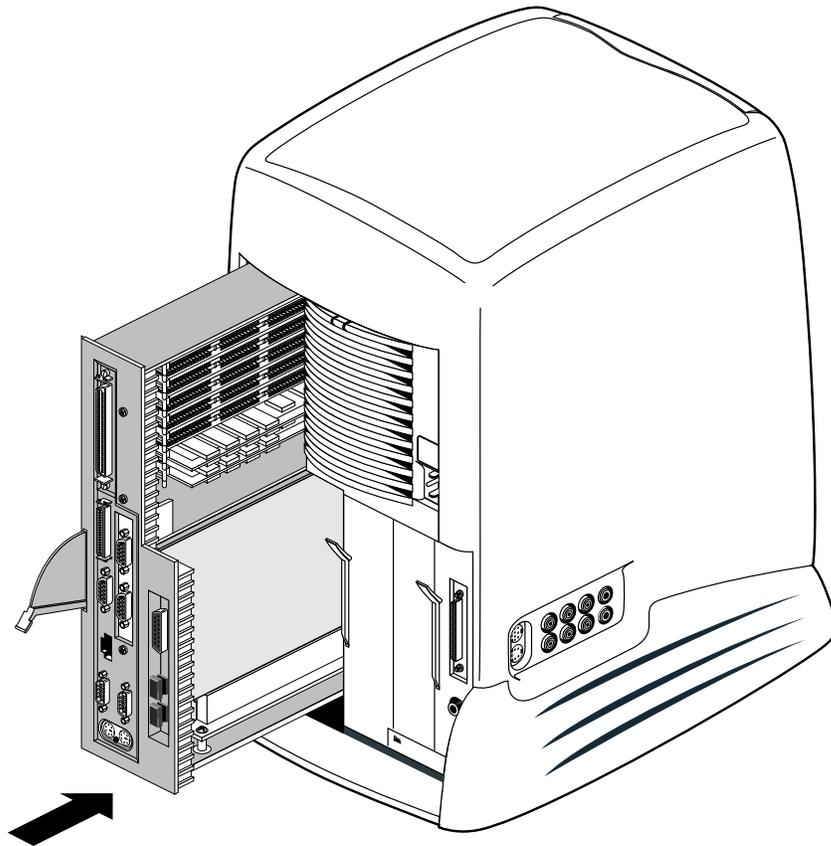

Figure 1-24 Reinstalling the System Module in the Chassis
1. Slide the system module into the chassis until the lever engages (Figure 1-24).